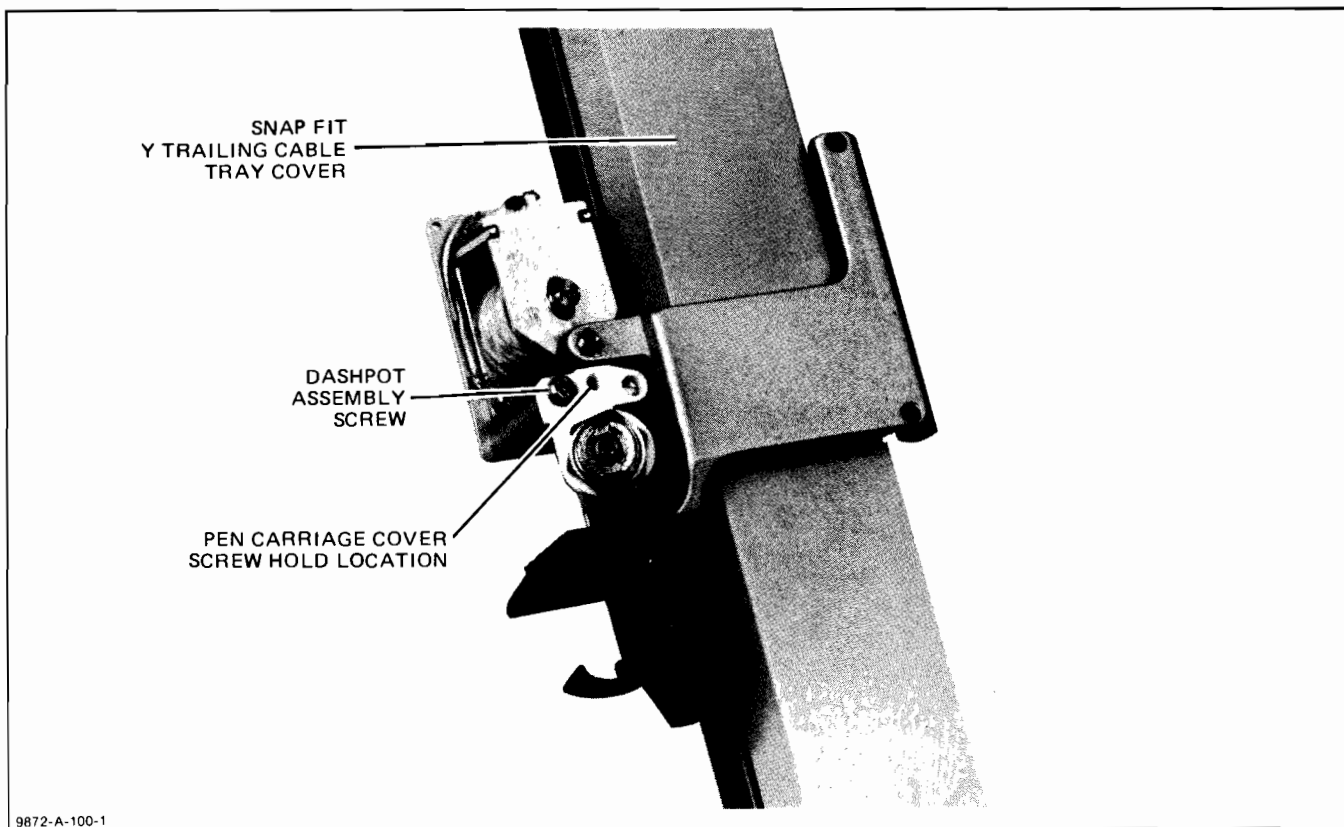

Figure 6-16. Pen Carriage with Cover Removed
- c. Remove the 2-56 × .3 in. panhead screw from the dashpot assembly. See Figure 6-16.